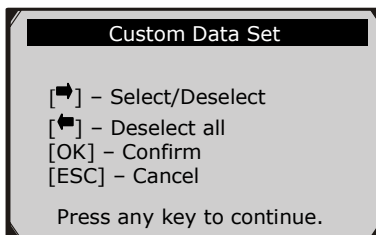

Figure 5.16
- 2) Observe on-screen instructions. (Figure 5.16). Press the **OK** button to continue; press the **ESC** button, or use **LEFT/RIGHT** button to select **NO** and press the **OK** button to return to **Record Data** menu.